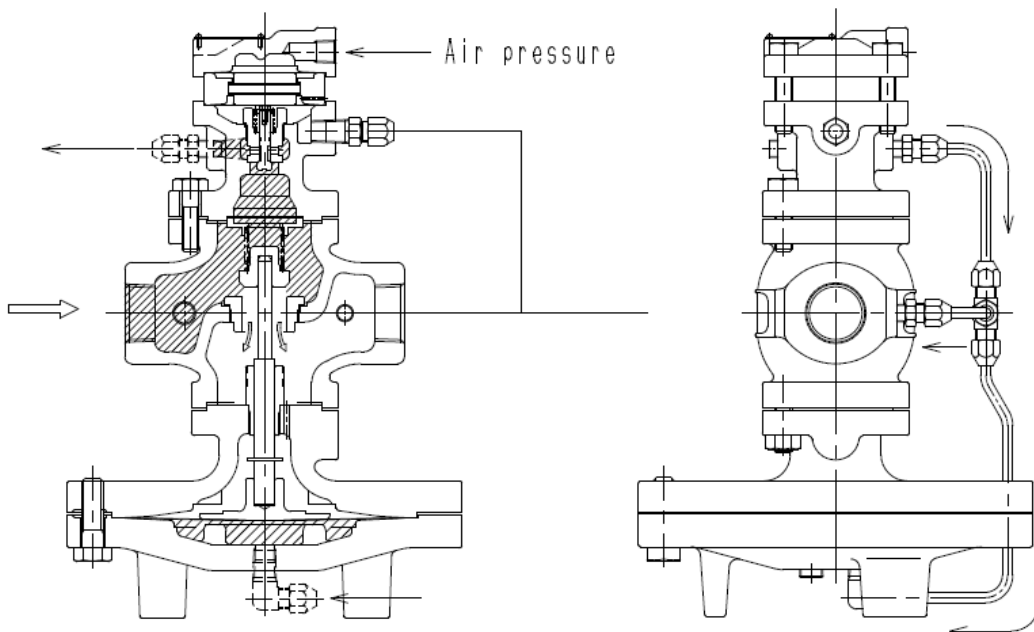

Fig.3
- (3) When the flow rate at the pilot valve exceeds the flow rate at the orifice, operating pressure in the main diaphragm chamber raised and overrides the pressure on the upside of the main valve and the load of main valve spring [13] to open the main valve. The fluid then begins to flow from the inlet side. (Fig. 3)